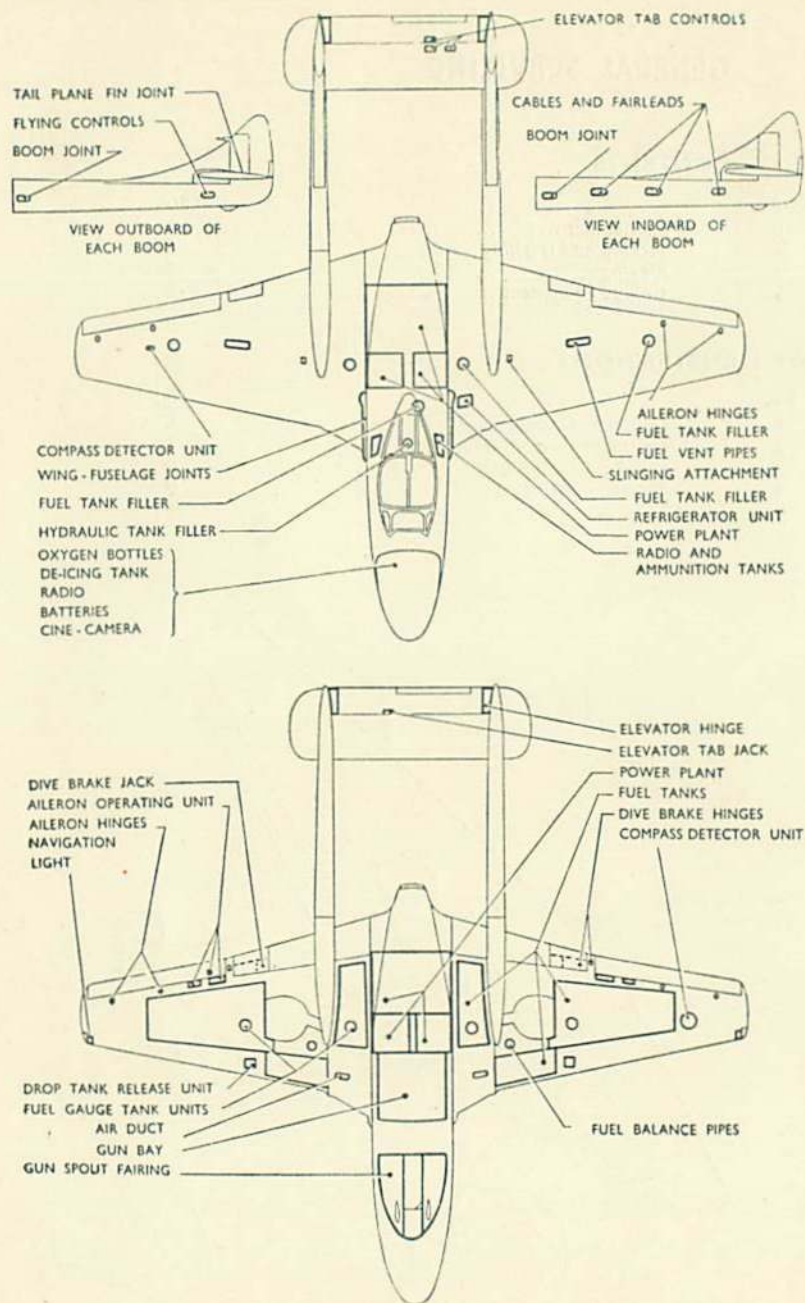

Fig. 2. Access panels
Access panels (fig. 2)
4. The annotations for the access panels shown in fig. 2, indicate the equipment and components which are accessible when the panels are removed.